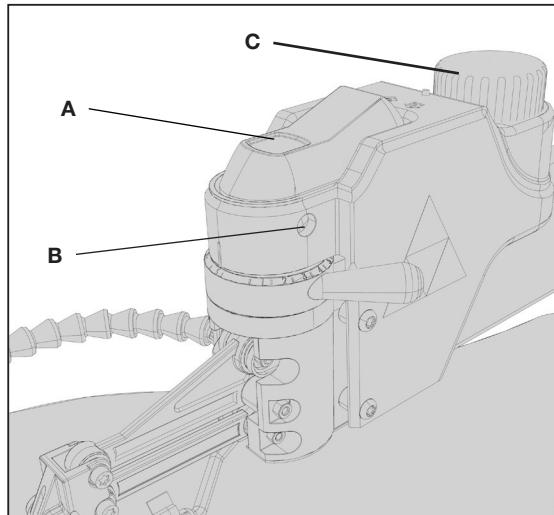

FIG. 8
To turn the scroll saw on, press the front of the switch (A) Fig. 8. The saw locks on automatically. To turn the tool off, press the back of the switch (A). A hole (B) is provided in the switch for insertion of a padlock to lock the saw off (Figure 8).
**IMPORTANT:** When the machine is not in use, the switch should be locked in the "OFF" position to prevent unauthorized use, using a padlock with a 3/16" (4.76 mm) diameter shackle through hole (B) Fig. 8.
Your scroll saw features a variable speed control, from 400 to 1,750 strokes per minute. To operate the variable speed feature, turn the speed control knob (C) Fig. 8 with the saw running.